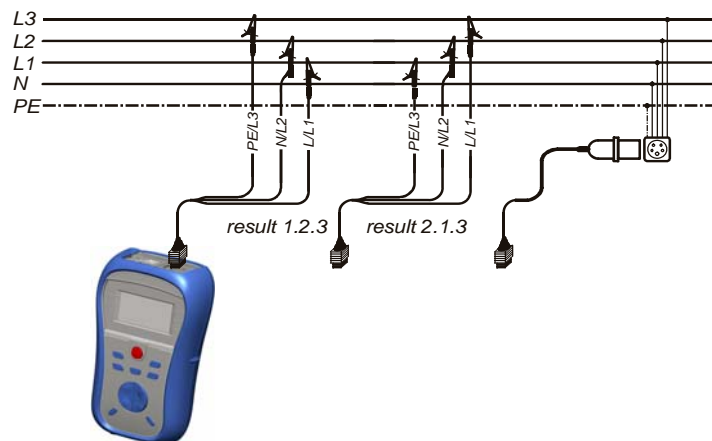

Figure 5.15: Connection of universal test cable and optional adapter in three-phase system
- **Connect** test leads to the to the item to be tested (see *figures 5.15 and 5.16*).